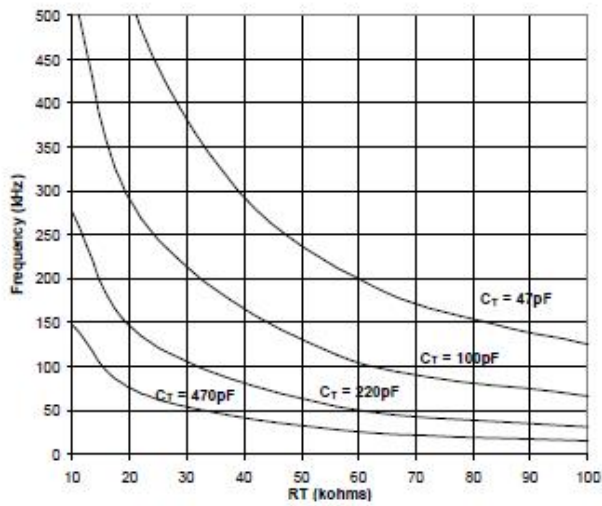
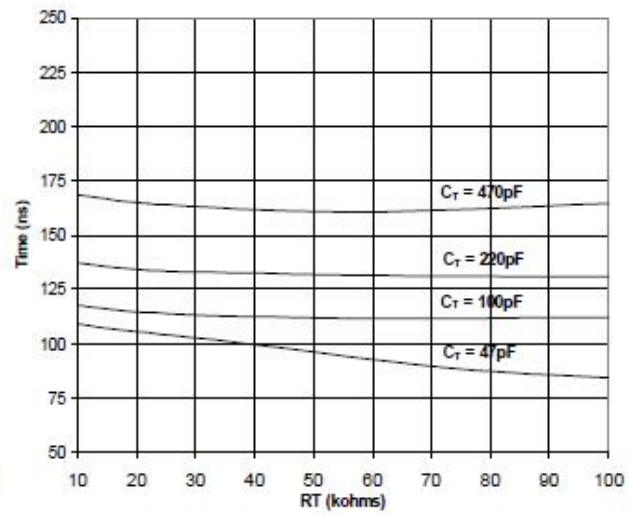

Fig. 1 Typical Output Frequency (-25°C to 125°C)
Fig. 2 Typical Dead Time (@25°C)
Each channel frequency is equal to  $f_{OSC}$ , which can be set by selecting  $R_T$  &  $C_T$ , as for Fig. 1. Dead-time can be controlled through proper selection of  $C_T$  and can range from 50ns to 200ns, as for Fig.2.
**OSC:** The oscillator-programming pin. Only two components are required to program the internal oscillator frequency: a resistor connected between the  $V_{CC}$  pin and the OSC pin, and a capacitor connected from the OSC to COM. The expected oscillator frequency is shown in Figure 1.